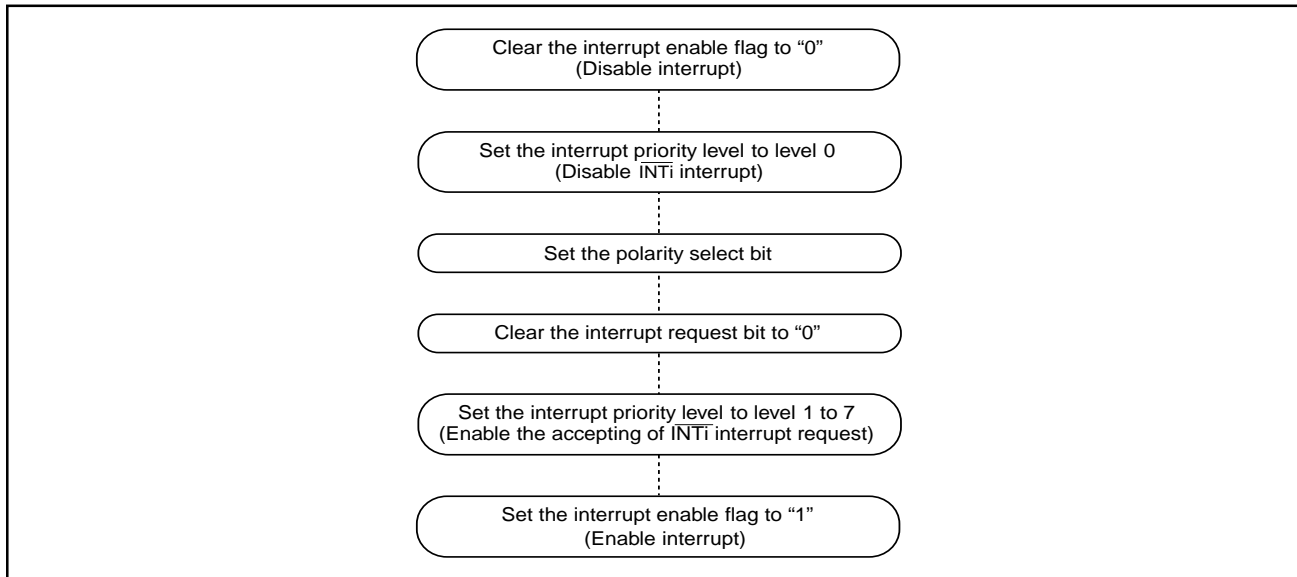

Figure 1.36. Switching condition of INT interrupt request
(3) The $\overline{\text{NMI}}$ interrupt
(4) External interrupts
- When the polarity of the INT₀ to $\overline{\text{INT}}_7$ pins is changed, the interrupt request bit is sometimes set to "1". After changing the polarity, set the interrupt request bit to "0". Figure 1.36 shows the procedure for changing the $\overline{\text{INT}}$ interrupt generate factor.